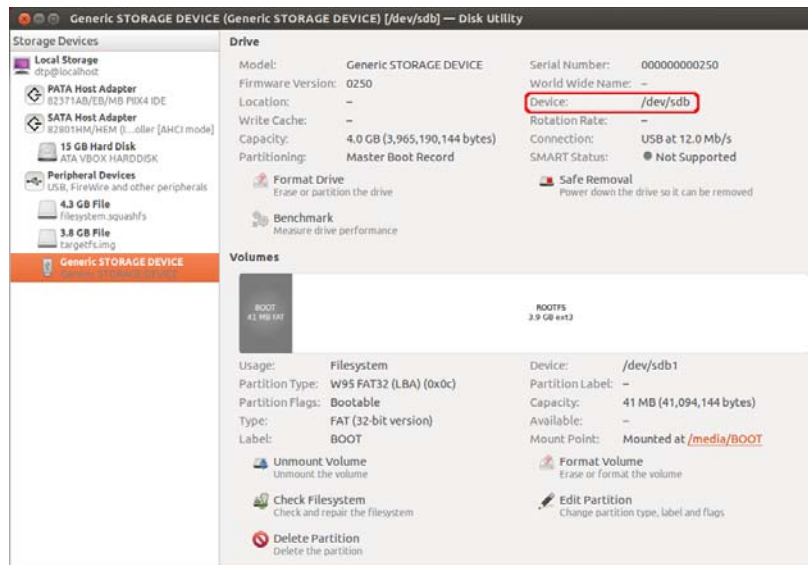

Figure 7 Using Disk Utility
- `--device` – The block device of the SD card (e.g. `/dev/sdd`). Tools such as Disk Utility (see *Figure 7*) can be used to determine the device.